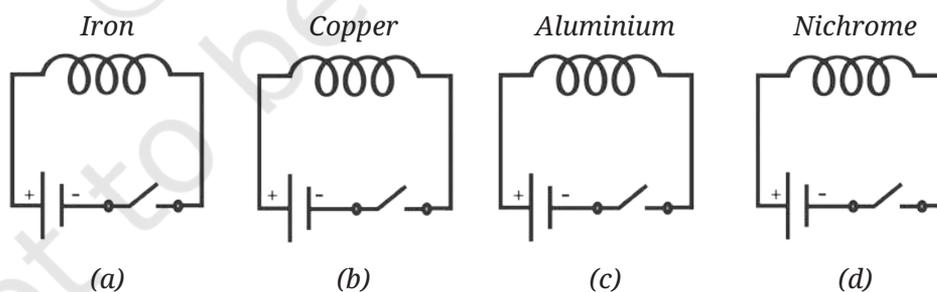

Fig. 4.12
- We have four coils, of similar shape and size, made up from iron, copper, aluminium, and nichrome as shown in Fig. 4.12.